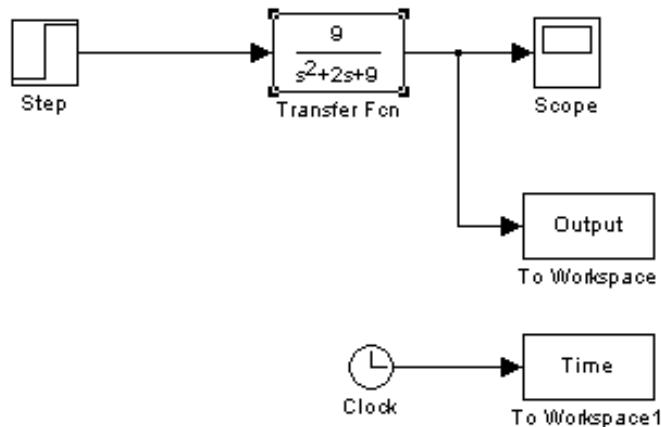

Figure 5. Simulink Diagram for Section 2.2
2.2.1 Develop Simulink Model. In the model window place the following items on the diagram and wire them together as shown in Figure 5. From the directory of tools select the following:
To wire items together, click on a device’s terminal then drag (hold left mouse key down) until you get to the target device’s terminal. To split wires, hold CTRL key down, then click on the wire you want to split, drag to the desired terminal. Move your blocks or wires around until the items appear as shown in Figure 5.